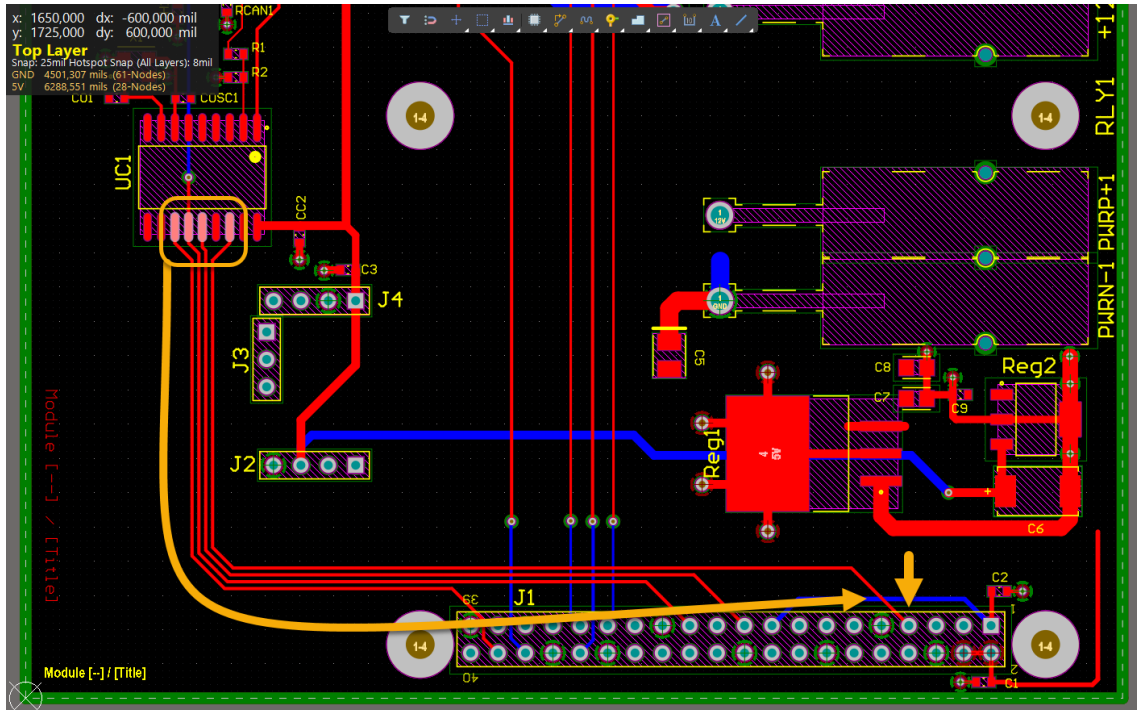

Figure 11. Multi-Trace Routing from UC1 to J4
- f) Left-click to place the first set of vertical routes. Then, move the cursor and hover on the furthest destination pad, which is Pin 7 of J4 as shown in Figure 11. If you're satisfied with the routes, left-click to place them.